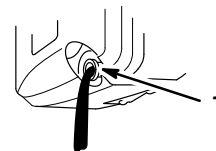

Figure 16
4. Remove the dipstick and tip the mower on the left side, draining the oil out the oil fill tube into an appropriate container (Fig. 16).